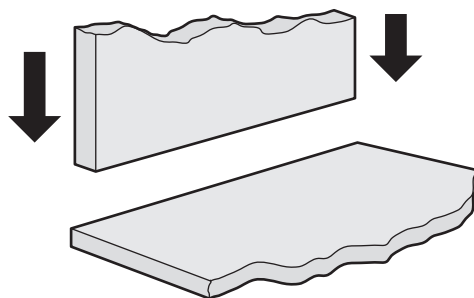

Fig. 7.1
- 7 Fig. 7.1 shows two pieces of 5 mm thick acrylic that will be joined together.
- (b) Add sketches and notes to Fig. 7.1 to show how excess adhesive could be prevented from spoiling the finished surfaces.